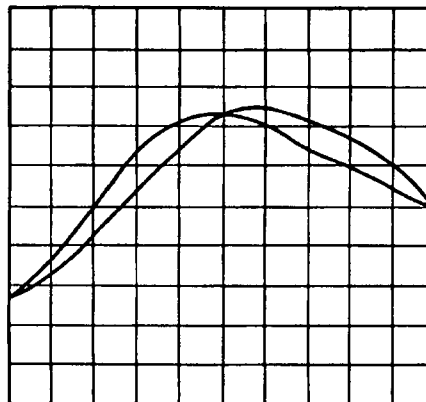

Figure 5-14. Optimum Centered YTM Response
13. Adjust A1A8R46, BD1 LO, at 2 GHz to center the peak of the YTM response as shown in figure 5-14. The display may show a retrace pattern due to hysteresis in the YTM circuitry. The center of the filter passband is halfway between the peaks of the two displayed signals.